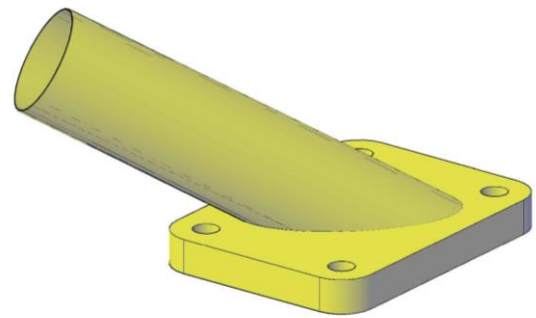
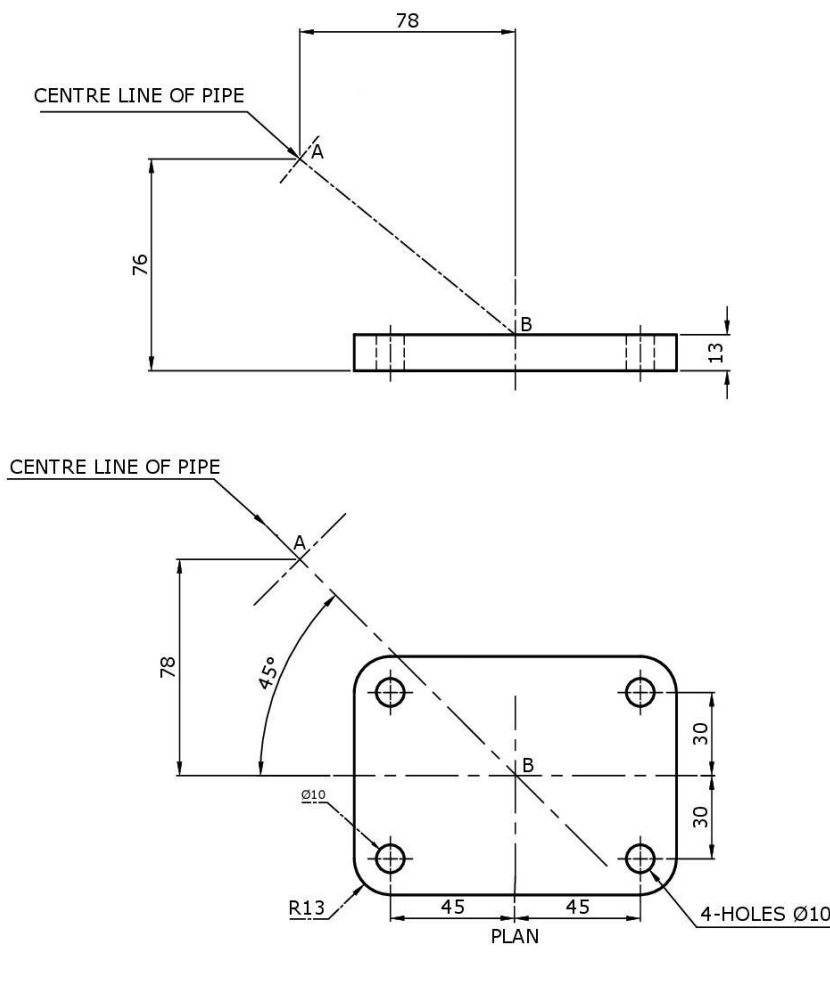

Figure 3a
Figure 3b
3. An illustration of a boat handrail fitting bracket is given in Figure 3a. Two incomplete views of the bracket are shown in Figure 3b. The centre line in both views represents the longitudinal axis of the pipe. The pipe has 40 mm diameter and is inclined at 45° to the vertical plane and the true inclination angle to the horizontal plane is 30°.
- Copy the given incomplete plan. (2)
- Project an auxiliary elevation with the 40 mm diameter pipe in position. Write down the true distance between centres A and B. (4)
- Complete the plan by showing the pipe and the curves at the joint line and at the open end. (5)
- Construct, by projection, the front elevation of the base plate and the inclined pipe. (9)